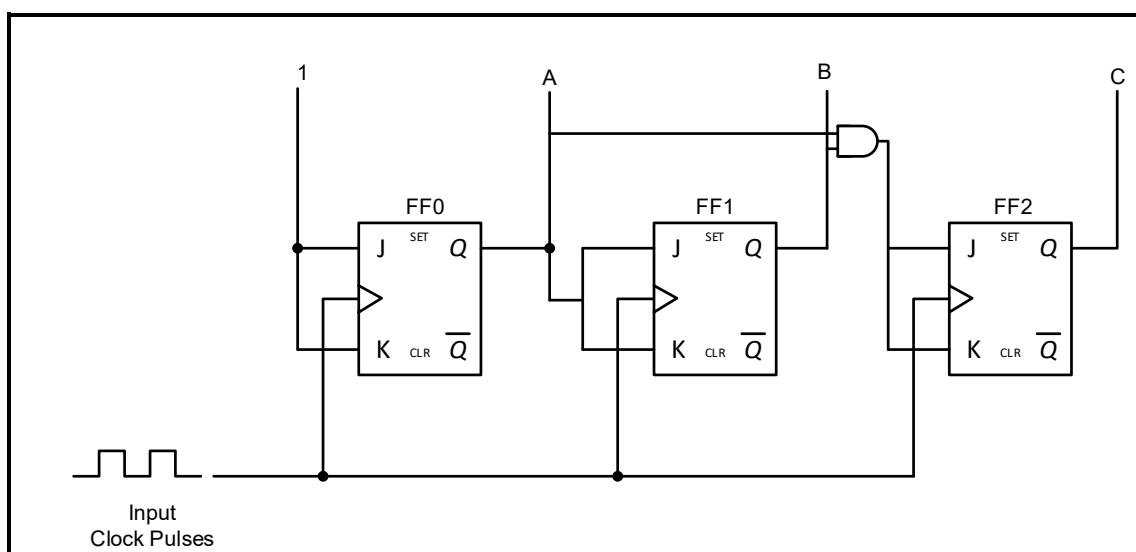

FIGURE 5.8: COUNTER
- 5.8 Refer to FIGURE 5.8 below and answer the questions that follow.
- 5.8.1 Identify the counter in FIGURE 5.8 above. (1)
- 5.8.2 State whether the counter in FIGURE 5.8 above is counting up or down. (1)